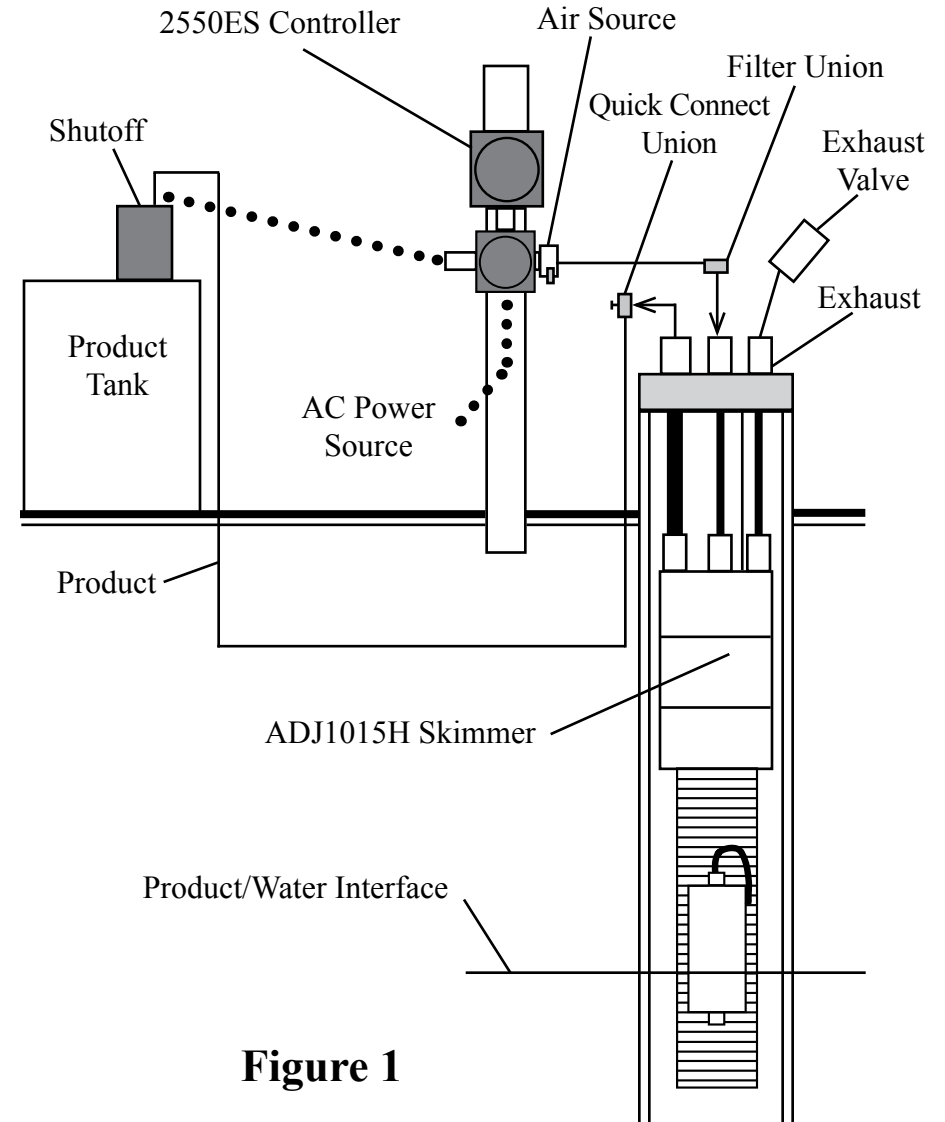
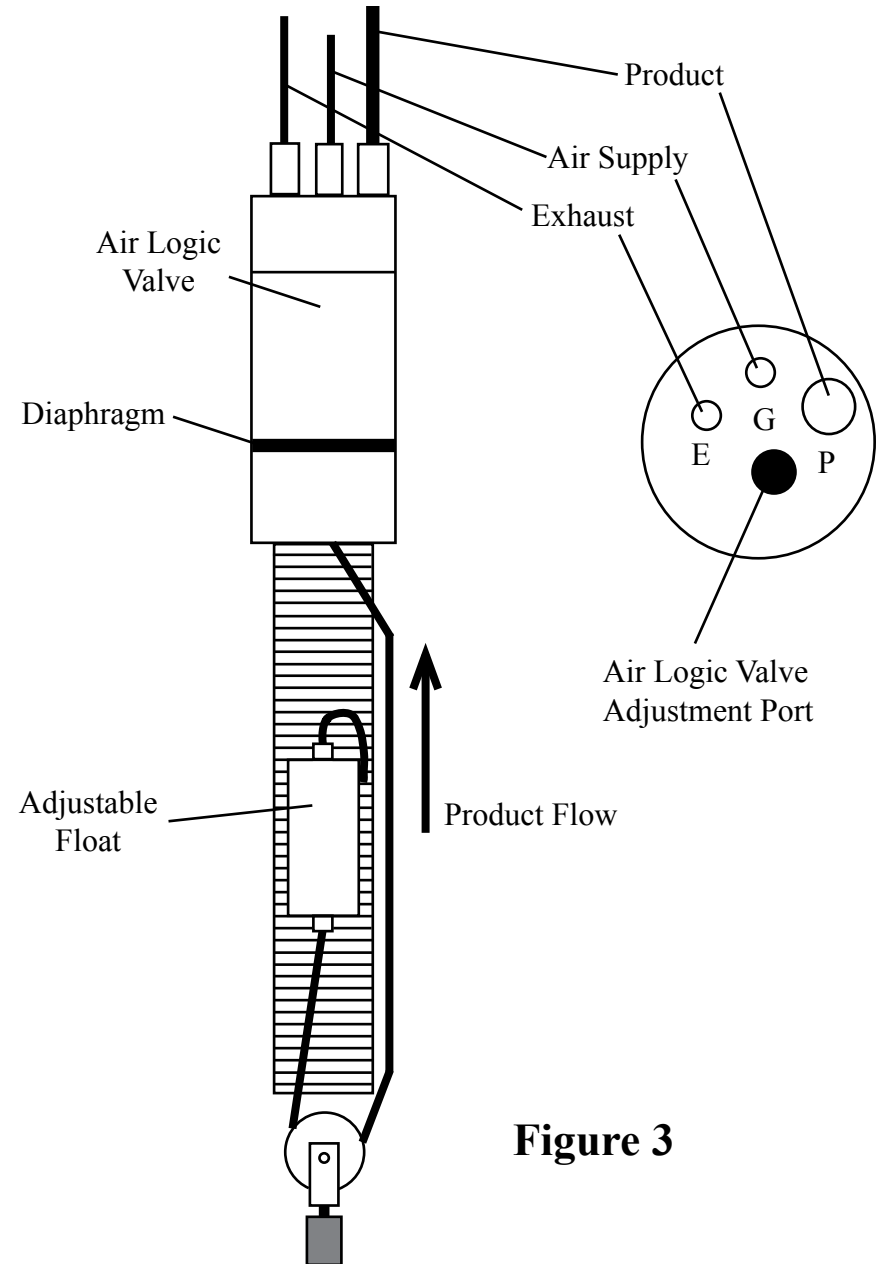

Figure 1
Figure 3
The system (Figures 1 and 2) relates to a heavy oil recovery system for wells four inches in diameter and larger. This system includes: an intrinsically safe ADJ1015H pneumatic Smart Skimmer, with an adjustable float (Figure 3), which removes heavy oil up to 200 feet deep; and a two function electronic Class I Controller Model 2550ES for hazardous locations which operates the skimmer intermittently, and has a high level tank shutoff.
STEP 7. Position the skimmer and well cap on the ground near the well. **NOTE:** If the skimmer is over 60 feet deep, use a vented design skimmer. Cut a length of 3/8" OD air supply tubing to cover the distance from the top of the well down to water/product interface, plus 5 feet. Slide enough tubing through the well cap and attach the end of the tubing to the top of the skimmer tube fitting labeled "G" (Figure 3). If the product thickness is greater than 1 foot, position the center of the skimmer screen 1 foot below top of product. If the product thickness is less than 1 foot, position the center of the skimmer screen at the water/product interface.
STEP 8. Cut a length of 1/2" OD product tubing same length as the air supply line. Install 1/2" OD product tubing through the well cap tube fitting labeled "P" (Figure 3). Slide enough tubing through the well cap and attach the end of the tubing to the top of the skimmer tube fitting labeled "P". **CAUTION:** Do not kink the tubing.